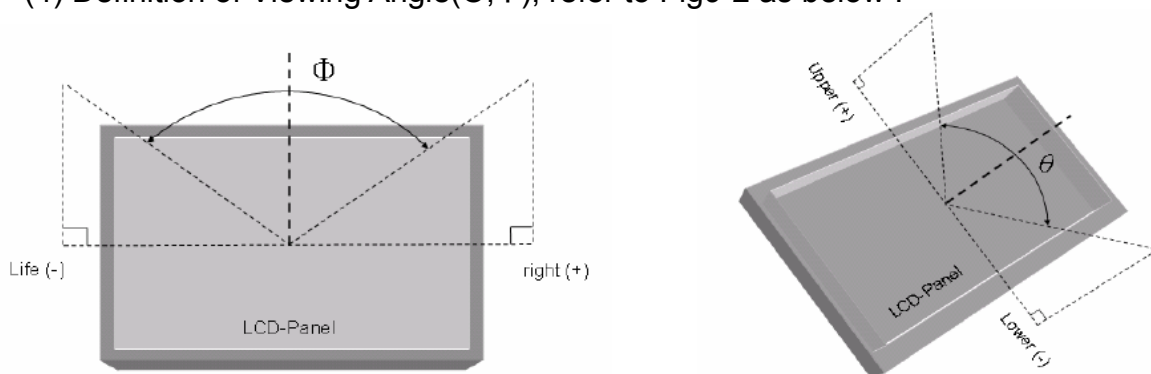

Fig9-2 Definition of Viewing Angle
(4) Definition of Viewing Angle( $\Theta, \Phi$ ), refer to Fig9-2 as below :